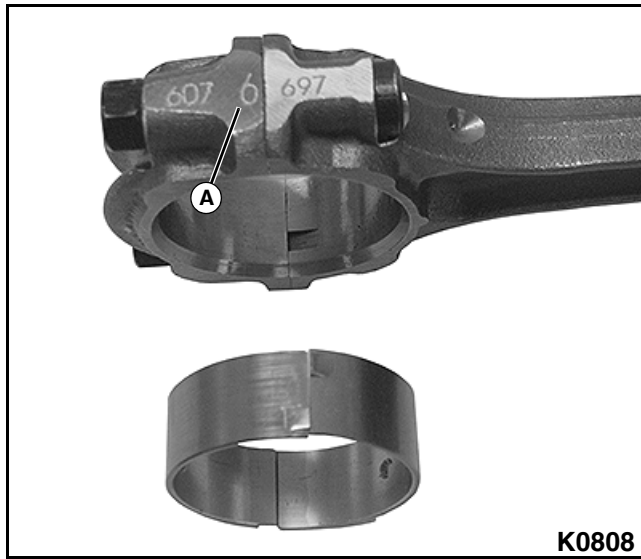

Figure 3-204
Connecting-rod big hole diameter and bearing are divided into 3 groups, marked with “6”, “7”, and “8” (A). Keep bearings in pairs when removed. See Figure 3-204.